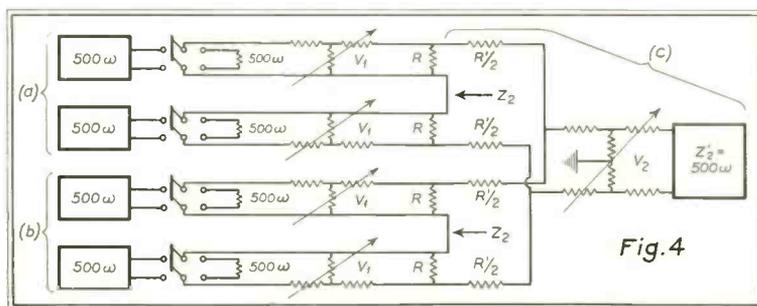

Fig. 4
To illustrate these types of mixers let us consider four fader positions of five-hundred ohms impedance each. Let us first break up the stations into two groups of two units each and combine each pair of units in a series arrangement as shown in Fig. 4 (a) and (b). Employing equation (3) we find that  $R$  is one-thousand ohms and  $Z_2$  of each pair is  $2000/3$  ohms. The latter value becomes the new source impedance and we shall combine these two new sources in parallel. Employing equation (5) we find that the value for each series compensating resistor, call it  $R'$ , is  $1000/3$  ohms which, as shown in Fig. 4 (c), is split in half to be placed on each side of the circuit. The
output impedance of this combination, call it  $Z_2'$ , comes out to be, by equation (5), 500 ohms so that in the case of this four-position mixer we end up with the same standard output impedance of 500 ohms as that of the individual stations. Since a four-position mixer is a very common arrangement we can see that this series-parallel type should prove to be very popular in use. Further perusal of Fig. 4 will show that while the individual fader volume controls are of the unbalanced T-type, their arrangement in series provides a perfectly balanced output and, as will be shown later, a minimum of cross talk will result. The master gain control is, of course, of the balanced H type unless an isolation transformer is also employed.
FIG. 4. FRONT VIEW OF THE 100-H/250-D TRANSMITTER. NOTE THAT PANEL DOOR IS OPEN SHOWING LOCATION OF TUNING CONTROLS AND INDIVIDUAL PLATE-CURRENT METERS ON THE RECESSED SUB-PANEL.
The most obvious difference between this transmitter and those of simplified design is, of course, in exterior appearance (see Fig. 4). Moreover, as soon as the doors are opened, it is obvious that the whole construction, interior as well as exterior, is quite different. The overall dimensions are, of course, greater than in the simplified designs. This allows the unit to match symmetrically the higher-powered units, which are of necessity larger in size. Moreover, it allows the equipment to be arranged so that tubes can be reached from the front. This is essential in larger transmitters, since the method of installing these (that is, side by side—or even in the side wall of the room) would cause some loss of time if it were necessary to change tubes from the back. In addition to these strictly utilitarian features, the appearance of this deluxe unit is, of course, such as to give a richer affect. Streamlining is evident in every detail, as well as is the size and shape of the various panels. Controls are centralized on one small panel, and all of the tuning controls (requiring only infrequent re-adjustment) are recessed. Meters are located on tilted panels at the top and indirectly illuminated.